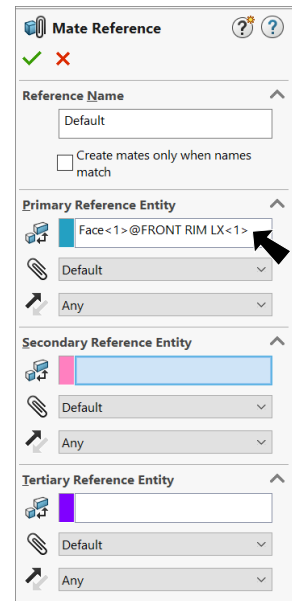

Fig. 7
Step 4. In the Mate Reference Property Manager click OK  , **Fig. 7**.